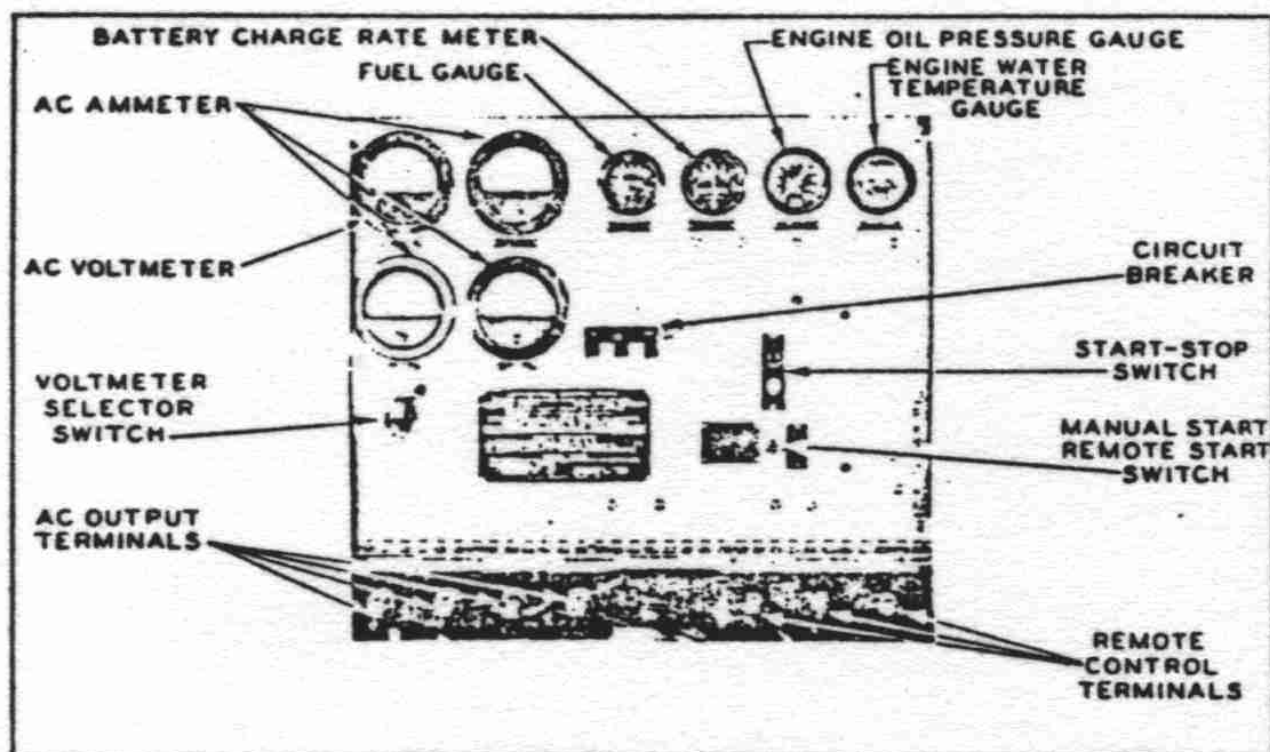

FIG. 3 CONTROL PANEL
b. Control Panel Equipment.—The following pieces of equipment are mounted on the control panel. (See Figs. 3 and 4).
(3) *Remote Control.*—If it is desired to start and stop the power unit from one or more remote points, it will be necessary to install remote start and stop switches at each of the remote points and to connect them with the REMOTE CONTROL terminals, (Fig. 3), below the control panel of the power unit. Use 2-pole push button type switches, one for starting and one for stopping. Connect the insulated terminal of the starting switch to the REMOTE CONTROL terminal R. Connect the
(1) *Circuit-Breaker.*—Make sure that the CIRCUIT BREAKER (Fig. 3) is in the OFF position.